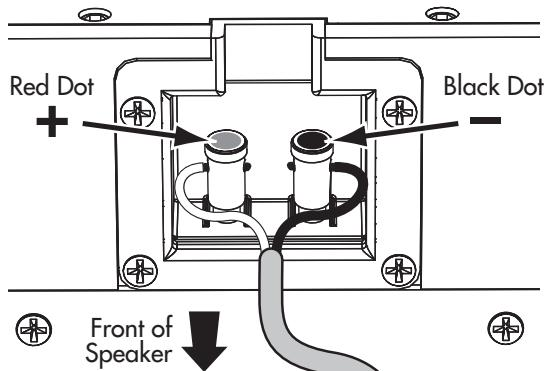

FIGURE 4: CONNECTING THE SPEAKER WIRE
- The speaker’s positive post is labeled with a red dot; the negative post is labeled with a black dot. Double-check that you connected amplifier “+” to speaker “+” and amplifier “-” to speaker “-”. (See *Figure 4*.)